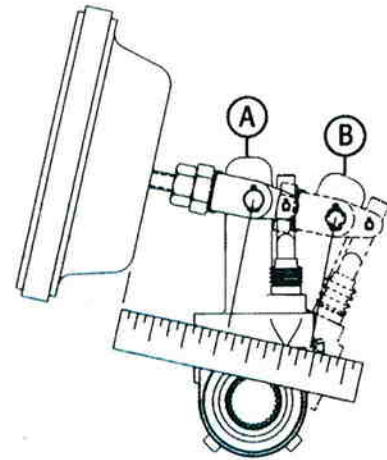

Figure 3 – Measuring Maximum Stroke
Make an 85-psi brake application and allow the air chamber to travel its maximum stroke. Measure the distance between the face of the air chamber and the center of the large clevis pin (B) (see Figure. 3). The difference between the (A) measurement and the (B) measurement is the push rod stroke. Check the charts located on page 11 for the proper maximum stroke after adjustment of the brakes.
Using a ruler, measure the distance from the face of the air chamber to the center of the large pin in the clevis (A). (see Figure. 3)